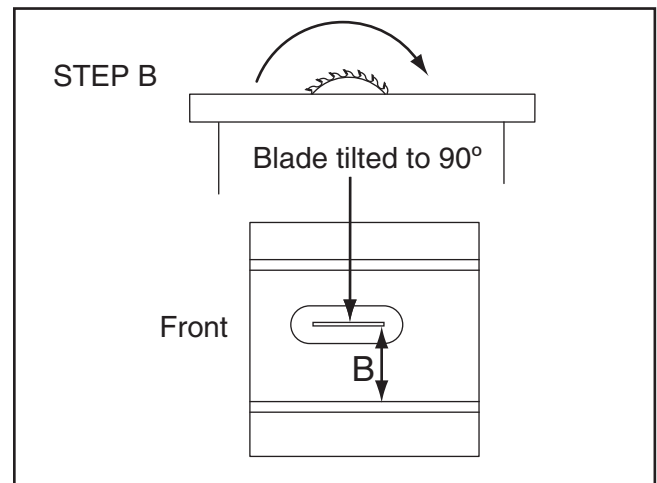

Figure 127. Measuring distance from miter slot to carbide tip on opposite side of table insert.
6. Compare the distance from the marked blade tip to the miter slot, as shown in **Figure 127**.